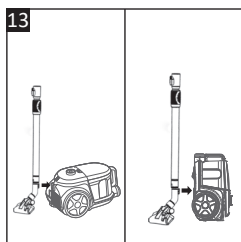

Fig. 13
- Press the Telescopic tube release button (20) to retract the tube before parking.
- **Horizontal parking position** – Slide the tab on the neck of the floor brush (18) into the parking slot on the back of the vacuum cleaner as illustrated (Fig. 13).
- **Vertical parking position** – Stand the vacuum cleaner upright and slide the tab on the neck of the floor brush (18) into the parking slot on the bottom of the vacuum cleaner as illustrated (Fig. 13).